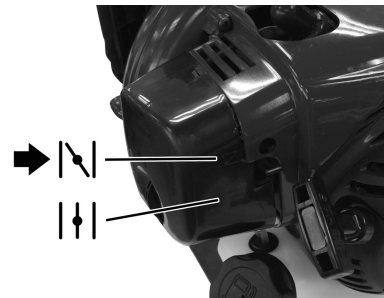

Fig.11
3. Your unit is designed with a 2 position choke: FULL CHOKE "  "and RUN "  ". Move choke lever to position FULL CHOKE  " (Fig.11).
6. Push the lock-out button (C) and press throttle trigger (B) to run.